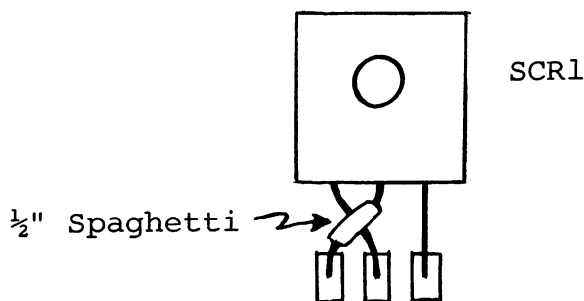

Figure 1. SCRI installation.
- () Position SCRI (IR106B2 or MCR106-2) on heat sink with component nomenclature up and observe how the left and center leads must be bent to install SCRI as shown in Figure 1. Bend these two leads as required and install a $\frac{1}{2}$ " piece of spaghetti over the center lead. Place circular mica insulator between heat sink and SCRI, insert leads and fasten SCRI-insulator-sink to PC board with a 4-40 x 7/16 screw, lockwasher and nut. Insert screw from back (solder) side of board and drive nut finger tight.